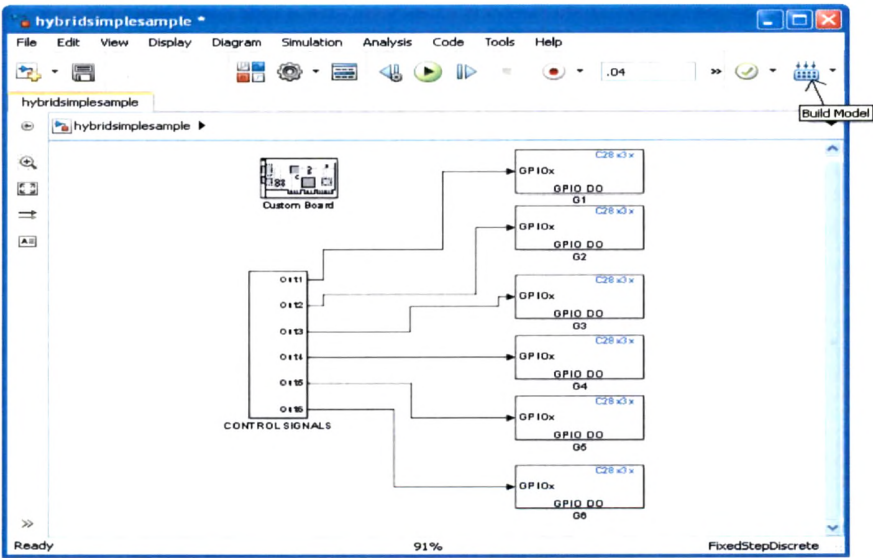
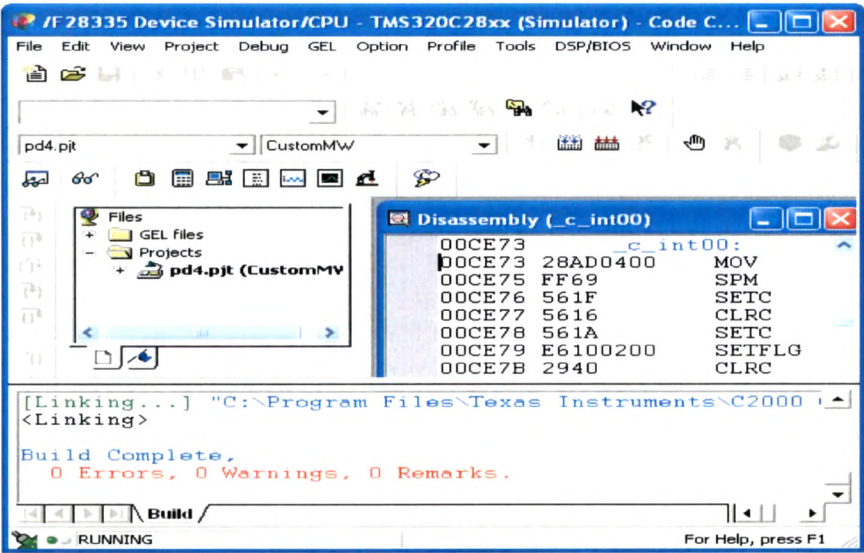

Fig. 6.5 Building model in MATLAB SIMULINK
Fig. 6.6 Project built in CCS
Step 5: After execution of .mdl file build model as shown in Fig. 6.5. Project is built in CCS as shown in Fig. 6.6 and loaded to emulator with no error and control signals are loaded in DSP. Thus 3.3V pulses are obtained GPIO pins specified.